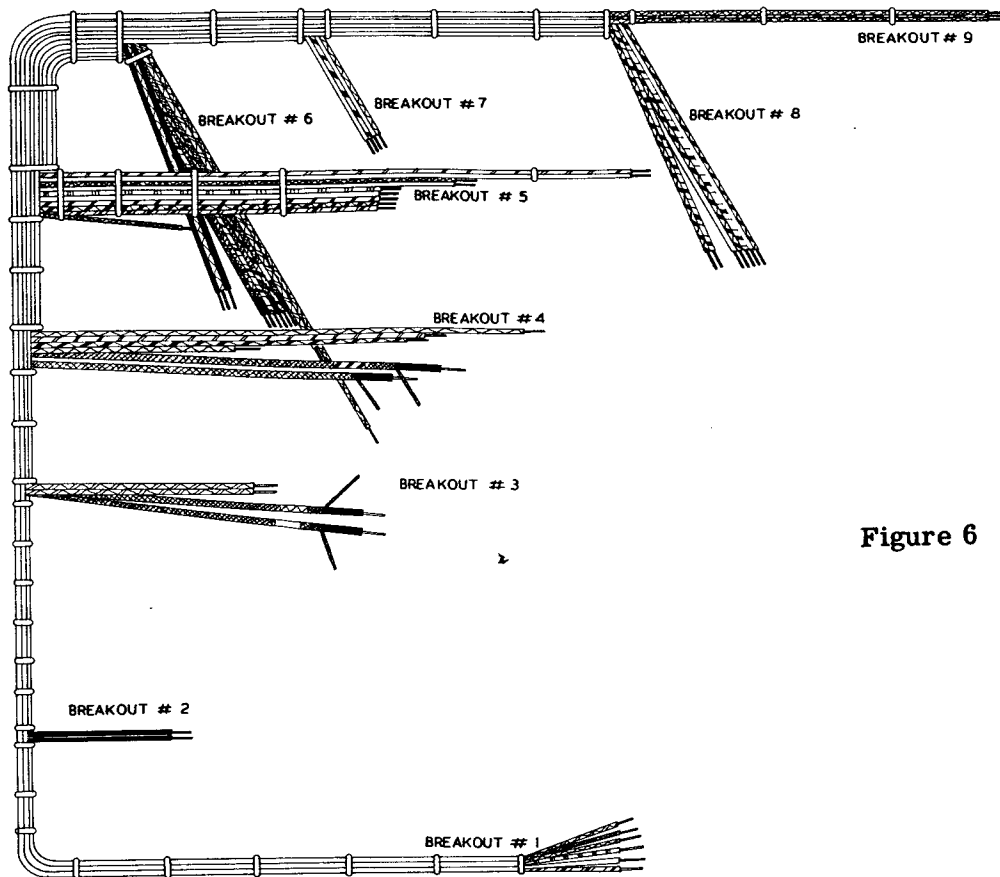

Figure 6
- (✓) Run the AC line cord through grommet AB. Tie a knot 2 1/2" from the end, as shown in Pictorial 3. Connect one lead to AD1 (S2); connect the other lead to AS1 (NS).
- (✓) Cut a piece of green wire to a 4" length, strip ends. Connect one end to AO5 (S); the other end will be connected later.
- (✓) Cut a piece of blue wire to a 4" length, strip ends. Connect one end to AO4 (S); the other end will be connected later.
- (✓) Cut a piece of yellow wire to a 3" length, strip ends. Connect one end to AO3 (S); the other end will be connected later.
- (✓) Cut a 1 3/4" length of bare wire, and tin the ends. Connect one end to the center post of the coaxial jack AH (S). Connect the other end to AG3 (NS). See Detail 5 page 45.
- (✓) Cut a 1 1/4" length of bare wire. Connect one end to AG2 (S); connect the other end to the ground lug adjacent to AG3 (S).
- (✓) Cut an 8 1/2" length of heavy red insulated wire; strip ends. Connect one end to AG1 (NS); the other end will be connected later.
- (✓) Follow Pictorial 3 for the correct placement of the wiring harness; breakouts are numbered on Figure 6. Locate breakout #1; this is the end that will be run through grommet AP. This breakout consists of 6 wires; white, brown, gray, green, violet and yellow. Run breakout 1, 2, 3, 4 and 5 through grommet AP, feeding the harness from the front towards the back of the chassis. Breakout #6 should be in front of the chassis partition; this breakout has 4 shielded wires in it. (Recheck the harness placement to be certain of proper placement before proceeding.)
- (✓) Connect the green wire from Breakout Number 1 to AE5 (S).
- (✓) Connect the white lead from Breakout Number 1 to AE6 (S).
- (✓) Connect the gray lead from Breakout Number 1 to AF2 (S).
- (✓) Connect the brown lead from Breakout Number 1 to AF3 (S).